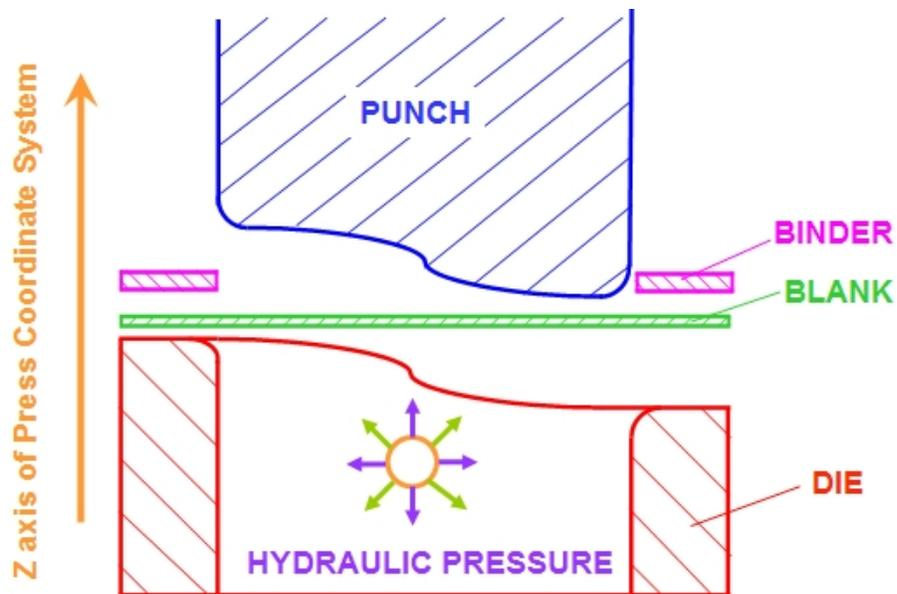

Figure 8.2.95 Fluid pressure is applied on bottom of blank
**BELOW:** In press coordinate system, fluid pressure is applied on the bottom of blank illustrated in Figure 8.2.95.